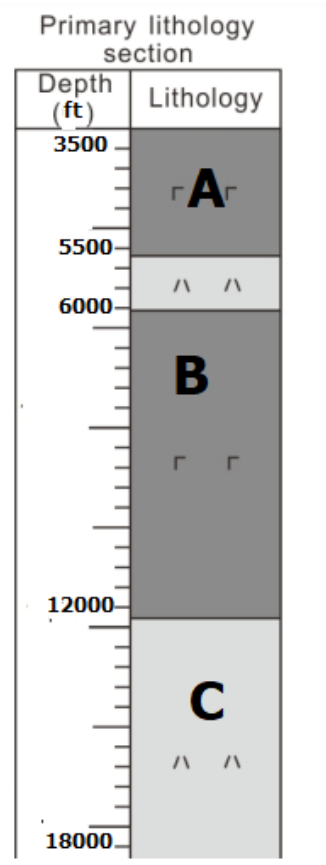

Fig 1
6. The need for well stimulation arises from either one of the following conditions: Formation permeability is inadequate to allow the well to produce at rates high enough for the timely recovery of investment in drilling and completing the well or the well has been completed in a formation having adequate permeability, but the formation near the wellbore has been damaged by the drilling or completion process. In the Fig 1, **Formation A represents** Sandstone with Porosity and Permeability 20% and 50 mD respectively. Pore pressure gradient 0.25 Psi/ft., **Formation B** represents Carbonate with Porosity and Permeability 15% and 36 mD respectively. Pore pressure gradient 0.28 Psi/ft., **Formation C** represents Shale with Porosity and Permeability 15% and 36 mD respectively. Pore pressure gradient 0.28 Psi/ft. Let's assume Formation A, B & C depleted after 1 year, 1.5 year and 3 year respective. Now design a stimulation job for all three formation considering the following parameters,